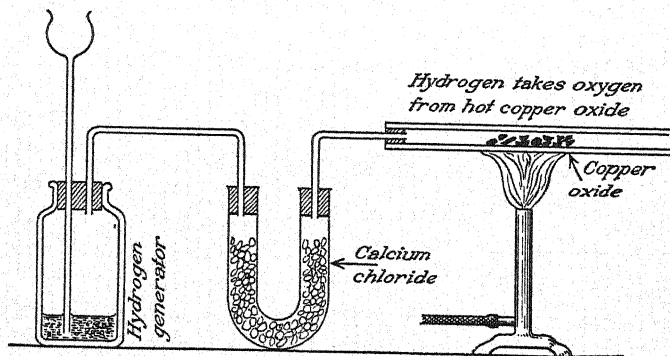

FIG. 50. — The hot hydrogen reduces the copper oxide to metallic copper.
**51. What Is Meant by Reduction?** If we heat a piece of sheet copper in air, a black scale of copper oxide forms on the surface. If we put this copper oxide in a glass tube, as shown in Fig. 50, and pass *dry* hydrogen over it while the copper oxide is being heated, the hydrogen will remove the oxygen from the copper oxide, unite with it, and form water. The U-tube contains calcium chloride, which dries the hydrogen by absorbing any water that may have been carried over from the generator. Such *abstraction of oxygen from a compound is called reduction*. The hydrogen serves as a *reducing agent*. The equation follows: